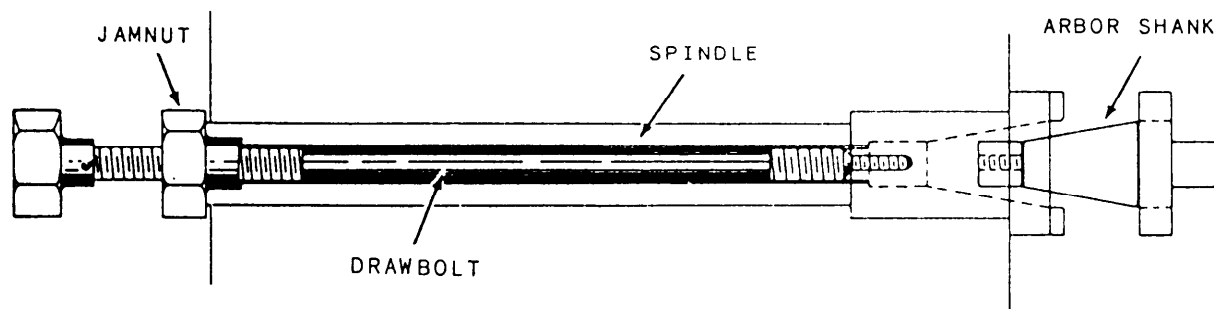

Figure 7-7.—Spindle drawbolt.
**SPINDLE:** The spindle holds and drives the various cutting tools. It is a shaft mounted on bearings supported by the column. The spindle is driven by an electric motor through a train of gears, all mounted within the column. The front end of the spindle, which is near the table, has an internal taper machined in it. The internal taper (3 1/2 inches per foot) permits you to mount tapered-shank cutter holders and cutter arbors. Two keys, located on the face of the spindle, provide a positive drive for the cutter holder, or arbor. You secure the holder, or arbor, in the spindle by a drawbolt and jamnut, as shown in figure 7-7. Large face mills are sometimes mounted directly to the spindle nose.